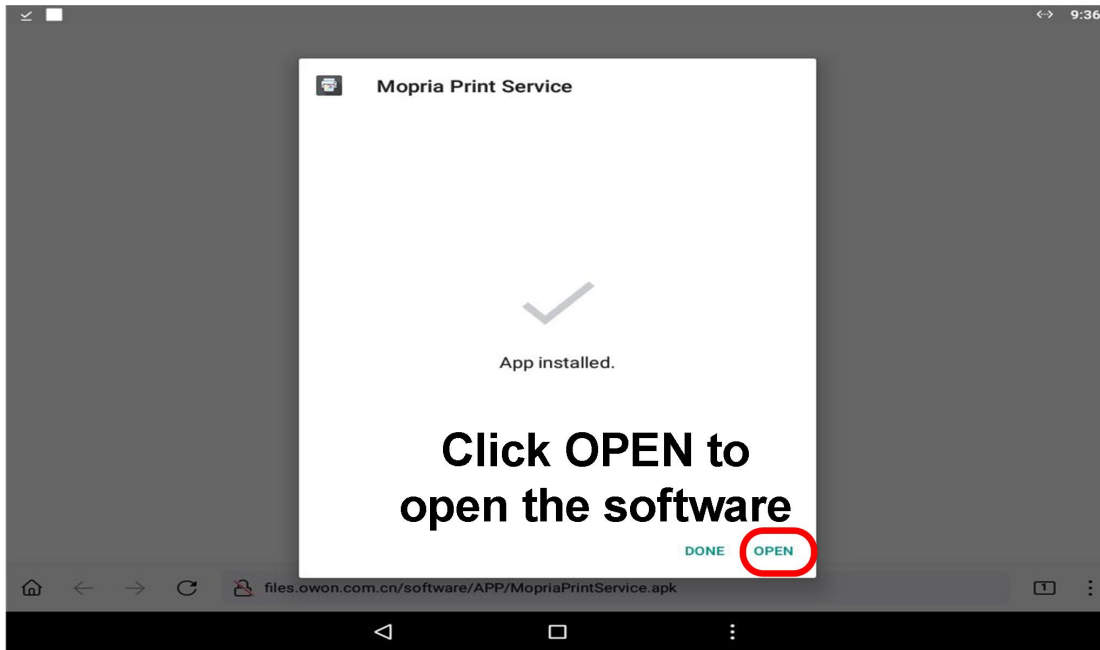

Figure 5
2. In website install print app, steps as shown in Figure 1 to Figure 5.
⑤ After install success, click **OPEN** can open print app. As shown in Figure 5.